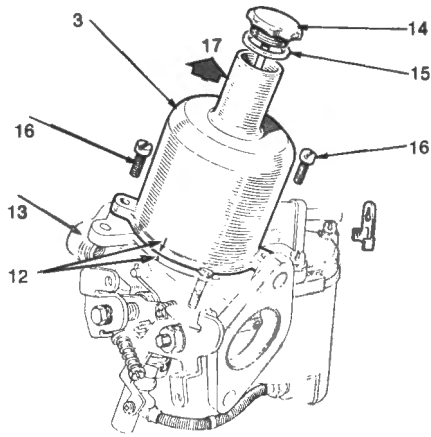
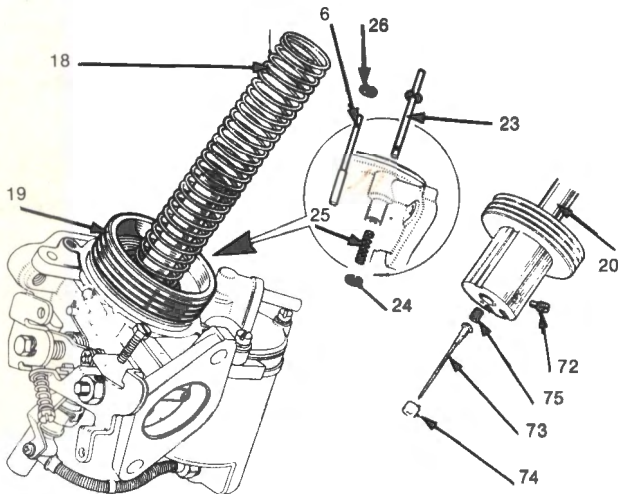

Fig. F-24
Fig. F-25
Refer Fig. F-24.
- 1 Remove the damper (14) and its washer (15). Unscrew the suction chamber securing screws (16).
- 2 Lift off the suction chamber in the direction of arrow (17) (Fig. F-24) without tilting.
- 3 Remove the piston spring (18).
- 4 Carefully lift out the piston assembly (19) and empty the damper oil from the piston rod (20). Refer Fig. F-25.